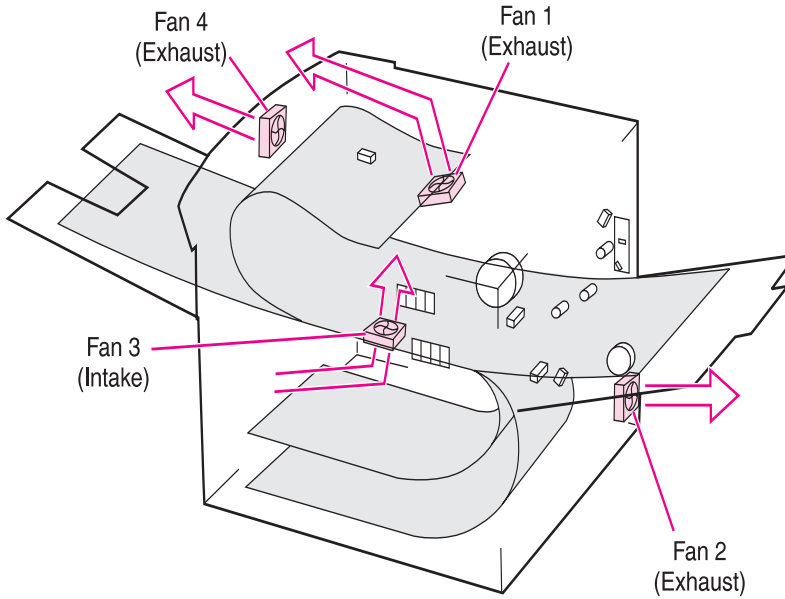

Figure 7-3 Fan Location and Airflow
3. Are the printer's fans on? (See figure 7-3 on page 334 to locate the fans.)	<p>Note: Fan operation is significant since all fans are controlled by the printer's DC Controller PCA. When the printer is in PowerSave mode, the fans are off. Make sure that the printer is not in PowerSave mode. Press Go. Operational fans indicate:</p> <ol style="list-style-type: none">1. AC power is present in the printer.2. DC power supply is functional (both 24V DC and 5V DC are being generated).3. DC Controller PCA's micro-processor is functional. <p>NO If the fans are NOT working, turn off the printer and remove the printer's Formatter PCA. Disconnect all the printer's paper handling options. Then turn on the printer and check the fans again.</p> <p>If the fans are still not working, perform the following steps:</p> <ol style="list-style-type: none">1. Verify that all fans are connected to the DC Controller PCA according to figure 7-19 on page 438.2. Replace the low-voltage DC power supply. See "Power Supply, Low Voltage (LVPS)" on page 206 for instructions.3. Replace the DC Controller PCA. See "PCA, DC Controller" on page 197 for instructions.